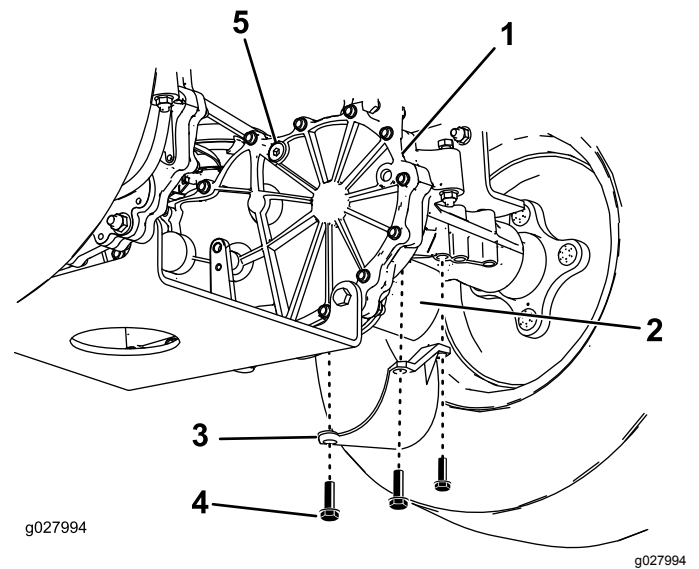

Figure 43
3. Locate the filter and filter guards on each transaxle drive system (Figure 43). Remove three screws securing the filter guard and guard.
4. Verify the vent plugs are removed before adding the oil (Figure 43).